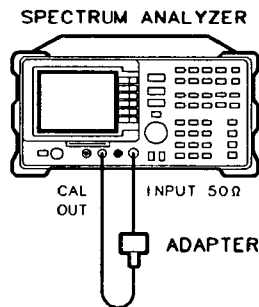

Figure 2-16. CAL FREQ Adjustment Routine Setup
1. Connect the CAL OUT to the INPUT 50 Ω (*Option 001*: INPUT 75 Ω) with the CAL cable. See Figure 2-16.